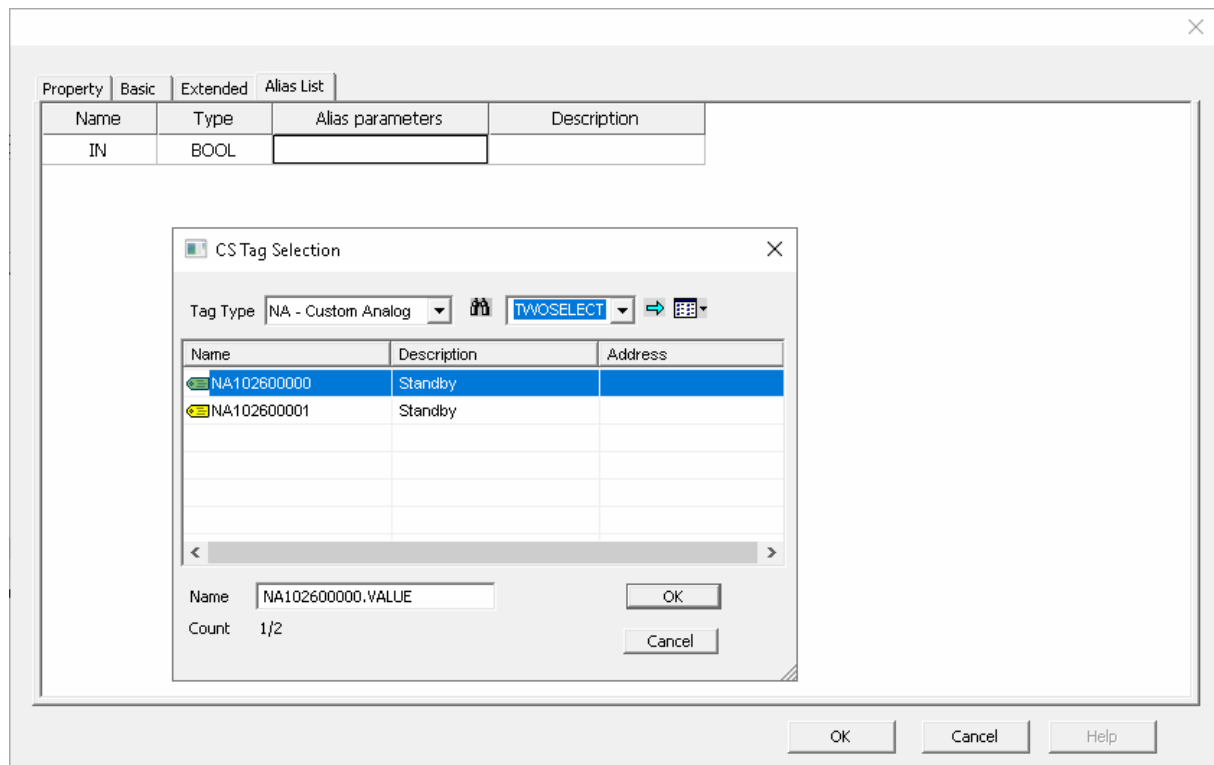

Figure 6-34 Editing interface of alias parameter of alias function block
2. Double click alias parameter editing box, users can define tag example to alias parameter by the pop-up tag selector, as shown in *Figure 6-34*.